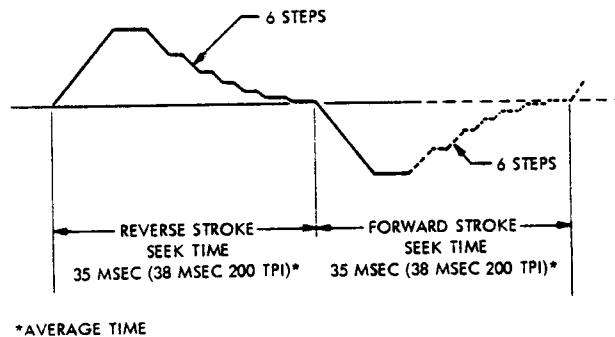

Figure 6-11. Velocity Feedback Waveform, TP16
- (1) Using the oscilloscope Channel 1 test probe, observe that the waveform at TP16 appears as shown in Figure 6-11.
- (2) If the waveform at TP16 does not appear as shown in Figure 6-11, perform the adjustments in Paragraph 6.9.5.3; otherwise, proceed with the Overshoot and Settling Response Tests in Paragraph 6.9.6.
*Average seek time is the average between the forward and reverse strokes; see Figure 6-11.*
- (3) If the average seek time in Step (2) cannot be attained, perform the Current Adjustment procedure in Paragraph 6.9.4.